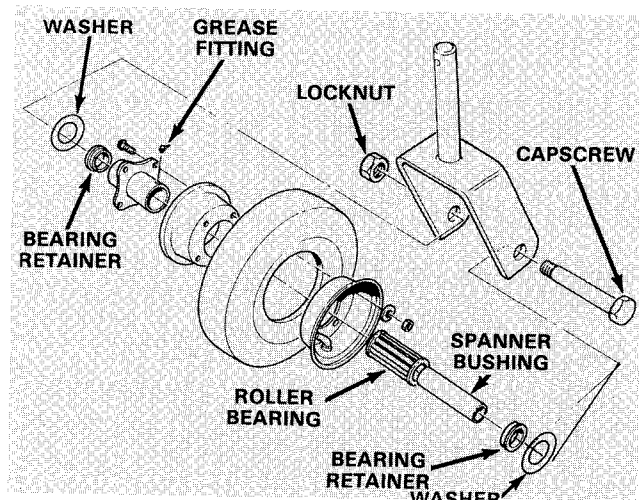

Figure 12
2. Tip wheel to the side and allow spanner bushing to fall out (Fig. 12).
6. Pump grease through grease fitting on wheel (Fig. 12) until bearing is greased thoroughly.